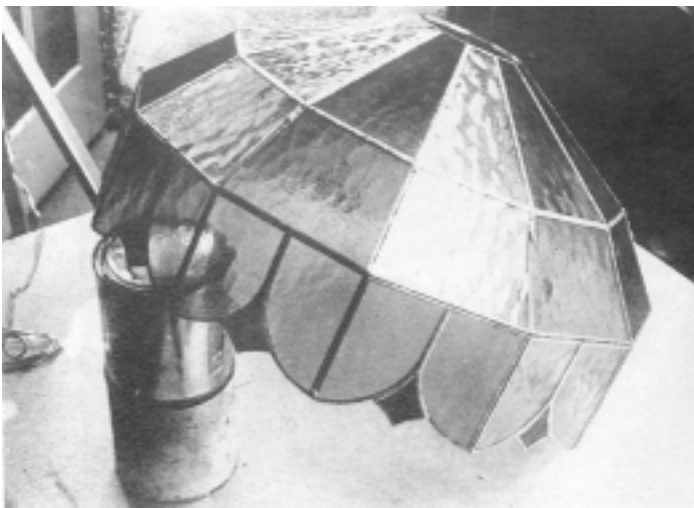

Fig 14.7
12. The outside joints should be beaded. Prop the lamp up to get the joint horizontal as you work on it (fig 14.7). Tin the foil edges around the bottom of the skirt and fit a wire spider into the top (see project no 3).